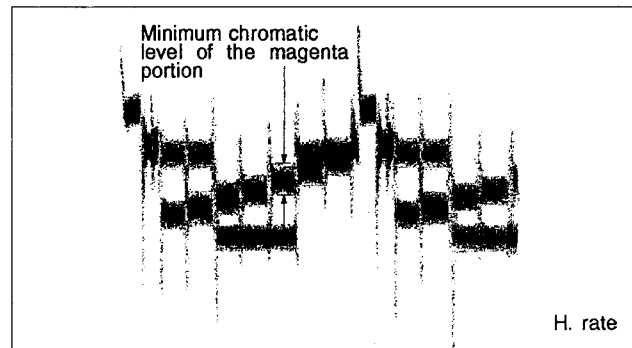

Fig. 3-1-13 Y comb level
- 2) Alternately adjust R322 and R324 for minimum chromatic level of the magenta portion, as in Fig. 3-1-13.